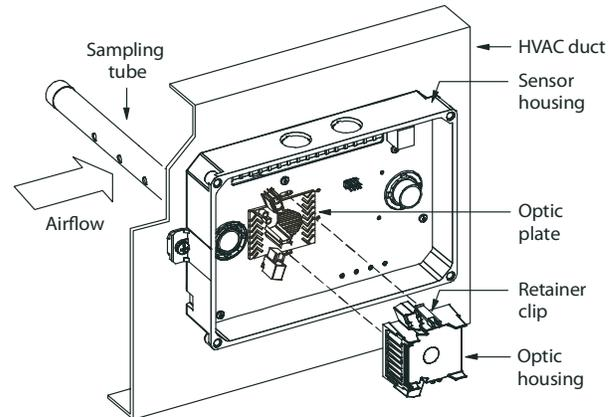

Fig. 27 - Sensor Cleaning Diagram
1. Disconnect power from the duct detector then remove the sensor's cover. (See Fig. 27.)